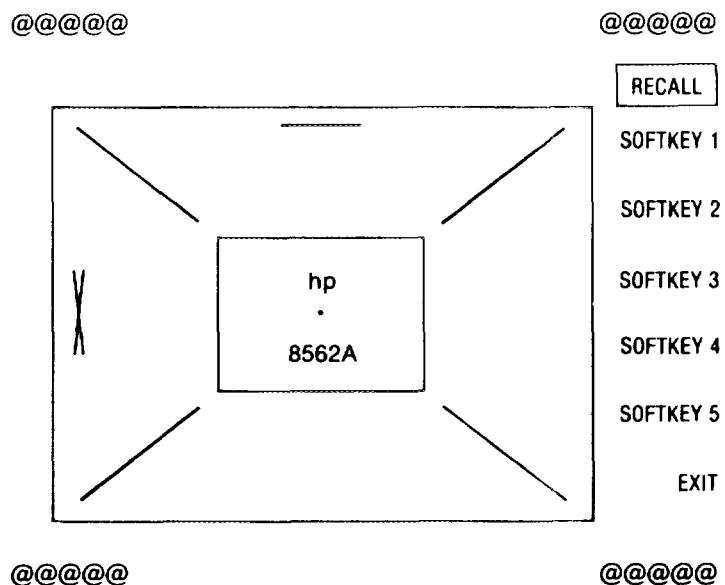

Figure 2-3. CRT Adjustment Pattern
2. Adjust the rear-panel TRACE ALIGN until the leftmost line of the test pattern is parallel with the CRT bezel. See Figure 2-3.